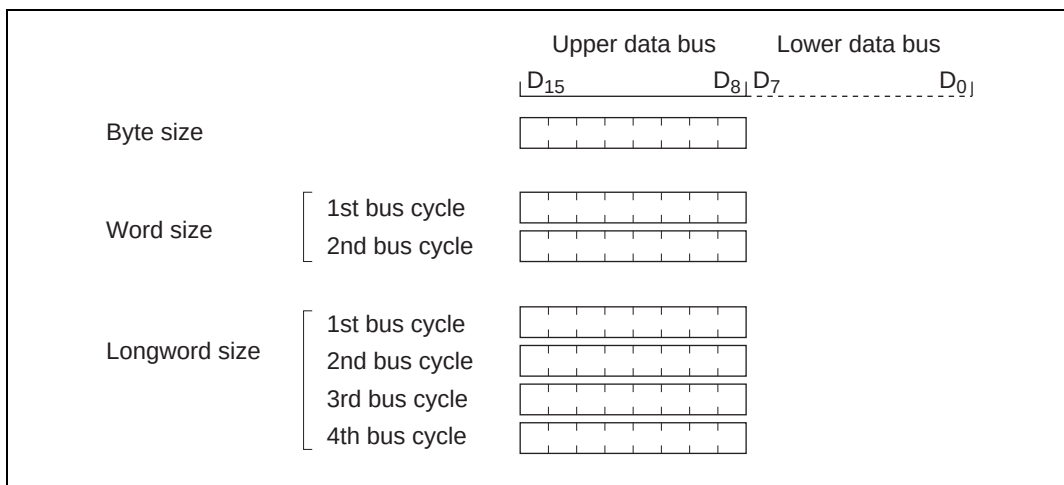

**Figure 6.4 Access Sizes and Data Alignment Control (8-Bit Access Space)**
**8-Bit Access Space:** Figure 6.4 illustrates data alignment control for the 8-bit access space. With the 8-bit access space, the upper data bus ( $D_{15}$  to  $D_8$ ) is always used for accesses. The amount of data that can be accessed at one time is one byte: a word transfer instruction is performed as two byte accesses, and a longword transfer instruction, as four byte accesses.